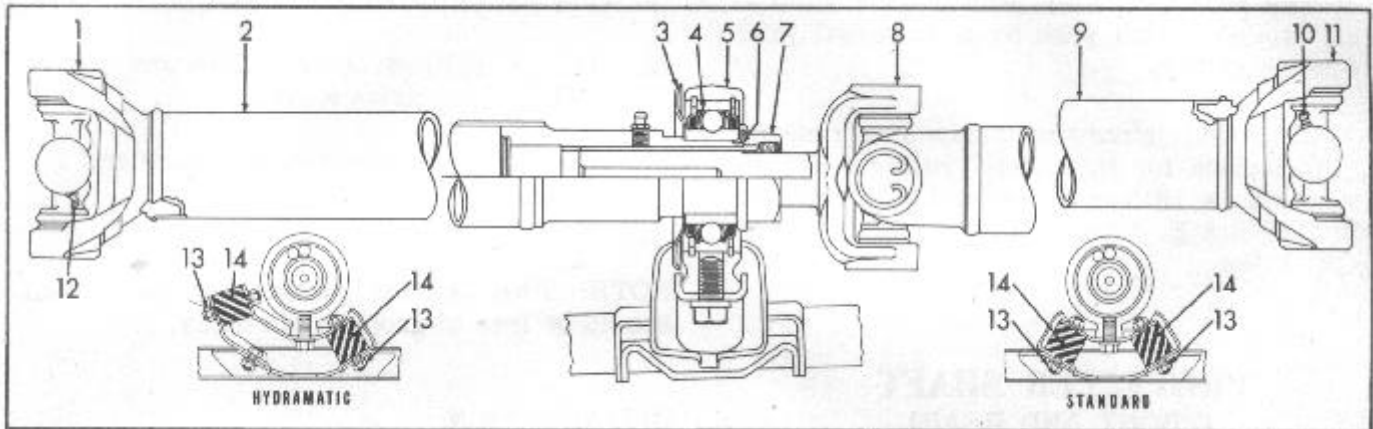

FIGURE 1
2. Remove attaching bolt from the center bearing support to frame crossmember, Figure 1.